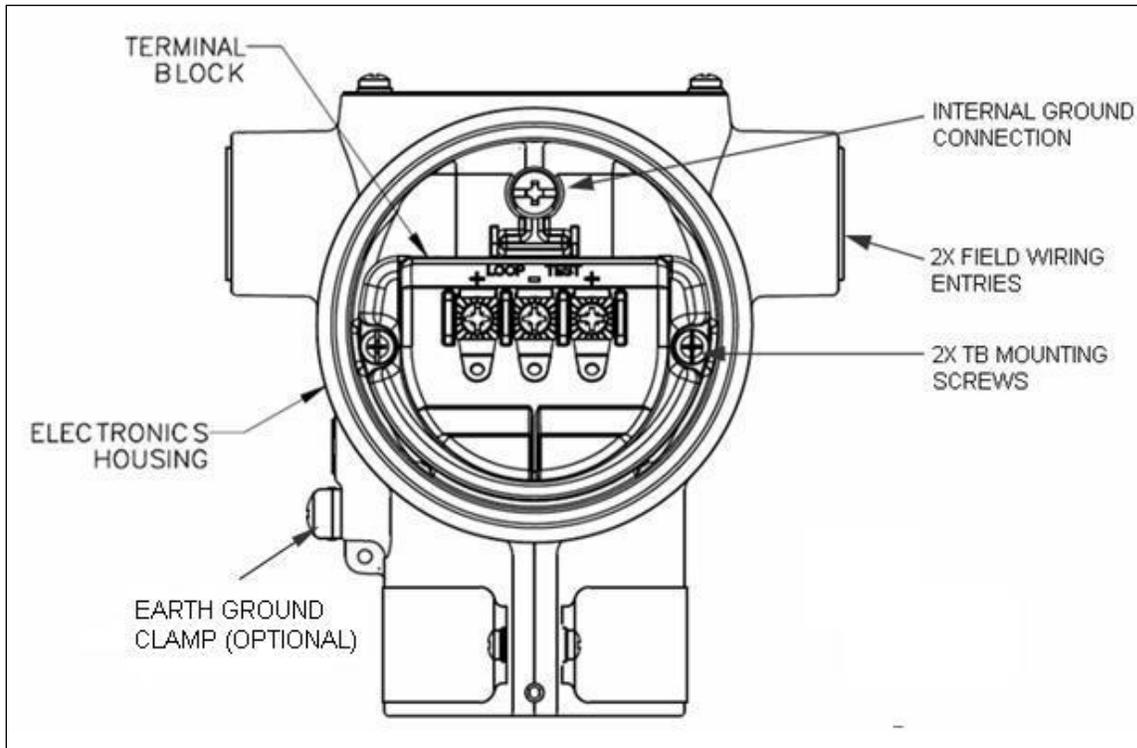

Figure 55 – ST 700 Basic Transmitter - 3-Screw Terminal Board and Grounding Screw
Loop wiring is connected to the Transmitter by simply attaching the positive (+) and negative (-) loop wires to the positive (+) and negative (-) terminals on the Transmitter terminal block in the Electronics Housing shown in Figure 55
As shown in Figure 55 each Transmitter has an internal terminal to connect it to earth ground. Optionally, a ground terminal can be added to the outside of the Electronics Housing. While it is not necessary to ground the Transmitter for proper operation, doing so tends to minimize the possible effects of noise on the output signal and affords protection against lightning and static discharge. An optional lightning terminal block can be installed in place of the non-lightning terminal block for Transmitters that will be installed in an area that is highly susceptible to lightning strikes.
7. See Figure 55 above, for parts locations. Loosen the end cap lock using a 1.5mm Allen wrench.